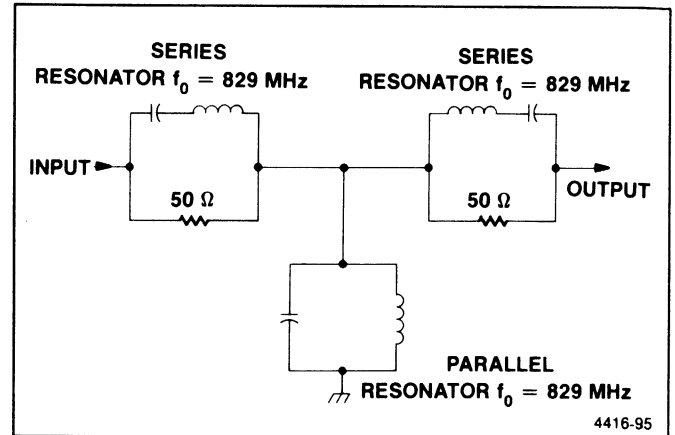

Figure 7-3. Simplified diplexer diagram.
**829 MHz Diplexer.** The 829 MHz Diplexer (A23A4) passes signals at 829 MHz with approximately 1 dB maximum attenuation and 200 MHz pass-band. Frequencies outside the pass-band but between about 50 kHz to 2 GHz are terminated in  $50\Omega$  loads with a match of at least 10 dB. Figure 7-3 shows a simplified schematic of the diplexer.
As shown in the schematic diagram, the diplexer contains components not shown in Figure 7-3. The  $50\Omega$  terminations are actually two pairs of  $100\Omega$  resistors, R1014-R1015 and R1011-R1012, connected in parallel to reduce load inductance. Small capacitors, C1010 and C1013, are connected across each load to improve impedance match at frequencies above the pass-band. The inductor in the parallel resonator is a printed length of transmission line that is tapped to establish the correct bandwidth. One end of this inductor is grounded through four capacitors so that dc bias from the 1st Local Oscillator Driver can be introduced to the 1st Mixer (A12) or the EXTERNAL MIXER input through this diplexer. Several capacitors are used in parallel to minimize inductance and circuit Q degradation. A low-pass filter is included in the bias line to minimize any noise from the 1st LO driver.